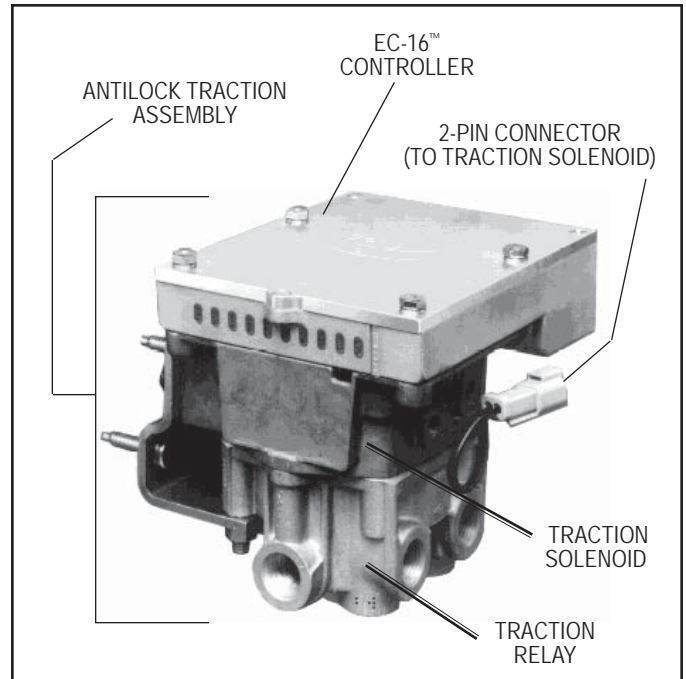

FIGURE 3 - EC-16™ CONTROLLER W/ANTILOCK TRACTION RELAY VALVE
Two electrical connectors located in the controller housing opposite the diagnostic display, connect the EC-16™ controller to antilock and traction system components: one 30 pin and one 18 pin Packard Electric 150 series “Metri pack” connector. In addition to these two housing mounted connectors, the EC-16™ controller also uses a 2 pin Deutsch connector when programmed with the optional traction control feature. The 2 pin connector is linked to a traction solenoid, which is located in the upper portion of the antilock traction relay valve assembly. (See Figure 3.)
The other EC-16™ controller is designed to be mounted on one of four different valves. All of the valves provide the relay function and replace the standard service relay on antilock equipped vehicles. In some instances the valves also provide specialized functions. When the EC-16™ controller is mounted on any of these valves, the result is a final assembly with its own model designation. Refer to the chart and figure 3.
- A connection to the **traction solenoid** (located in the upper portion of the antilock traction relay valve—see Figure 3) is provided via a 2 pin Deutsch connector.